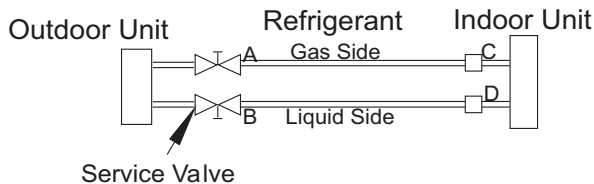

Fig. 5 — Service Valve
1. Completely tighten flare nuts on the line set at both the indoor and outdoor units. **DO NOT** open the service valves on the outdoor unit for the new installation or the replacement unit. Open the service valves on the outdoor unit if repairs have been made to the refrigerant sealed system. Connect the manifold gauge low pressure hose to the charge port of the gas side service valve (see Fig. 5).